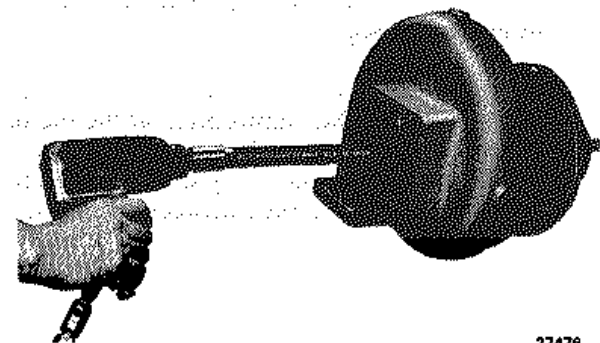

Fig. 10-8 - Removing Shaft Assembly
6. Using a box end wrench or impact gun and socket, Fig. 10-8, run in drive screw of disassembly tool until shaft and bearing assembly is free.